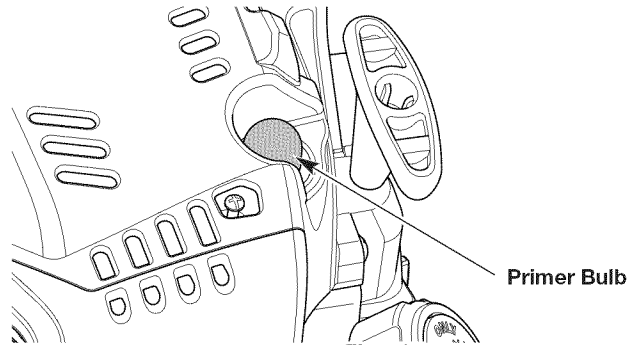

Fig. 10
3. Slowly press and release the primer bulb **10 times** (Fig. 10).